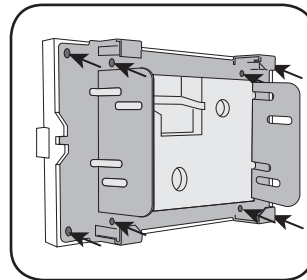

Fig. 3.2
2. Mount the radio bracket to the back of the VW1 bezel using the (4) four supplied Phillips screws. Secure the screen to the bracket using the hardware provided with the Pioneer radio. (Fig. 3.2)